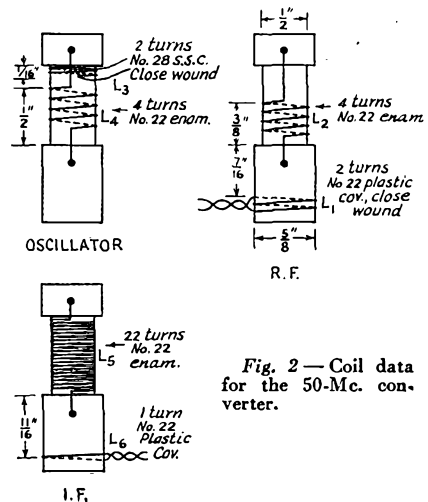

Fig. 2—Coil data for the 50-Mc. converter.
- L₁ to L₆, inc. — See Fig. 2.
Construction of the coils is shown in Fig. 2.